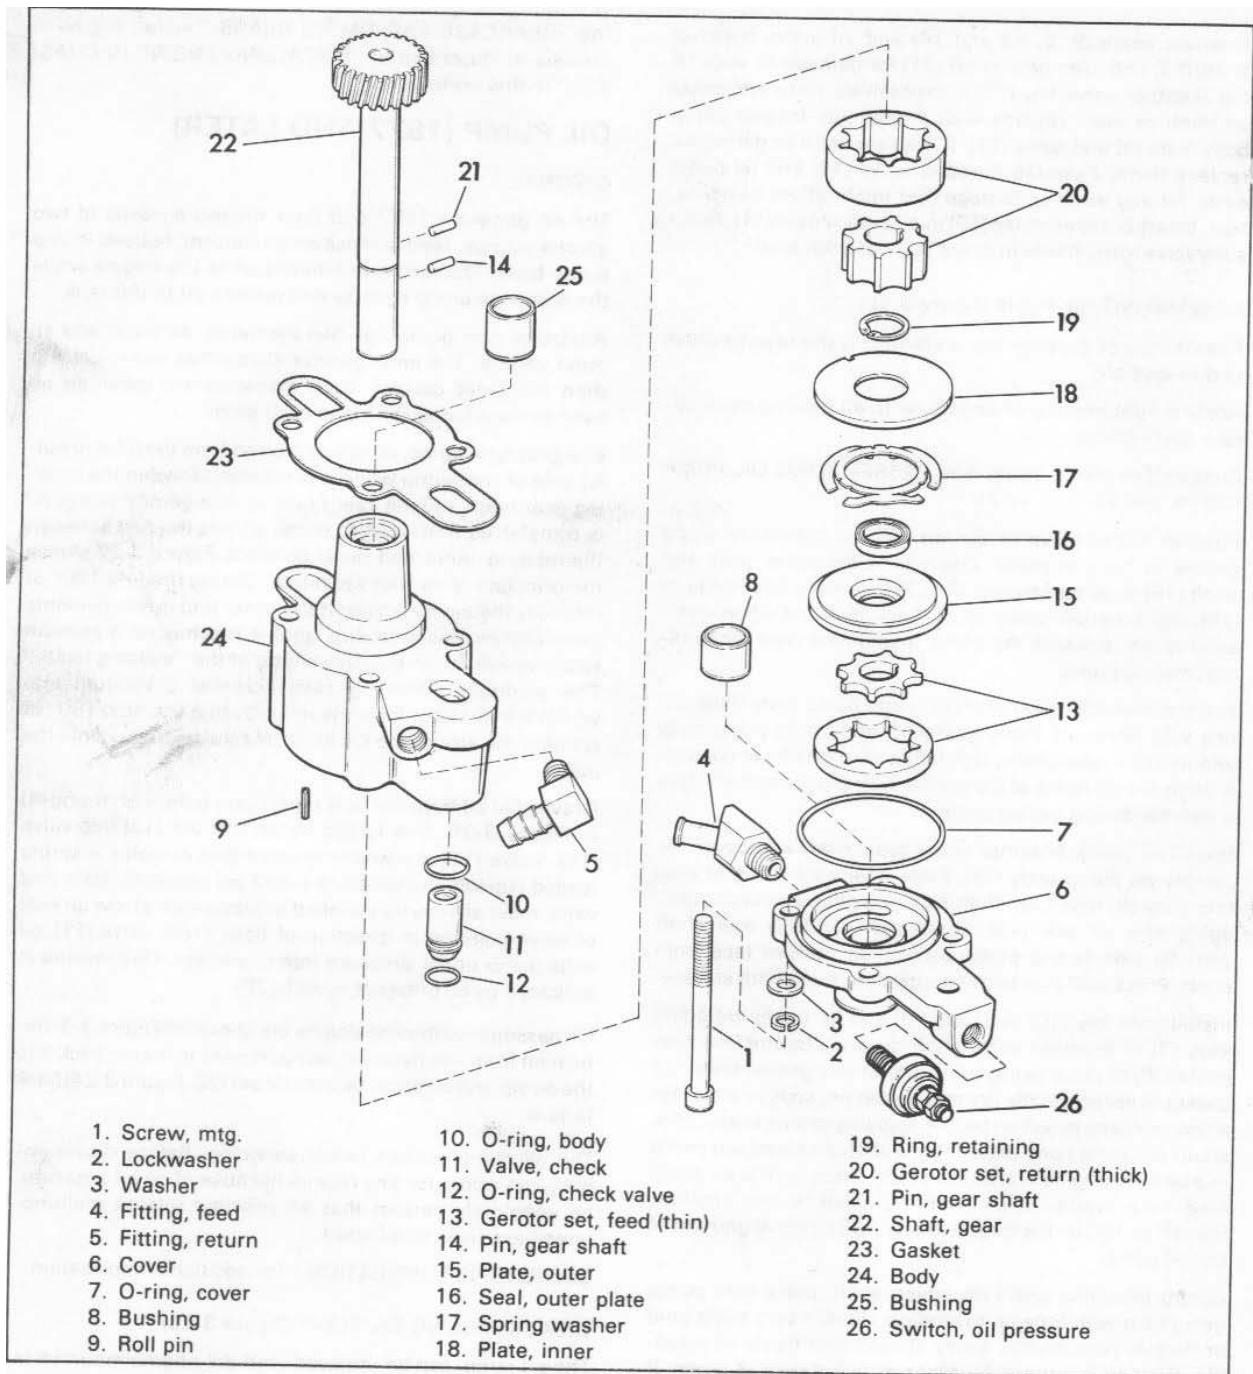

Figure 3-26. Oil Pump - Exploded View (1977 and Later)
Gravity fed oil from the tank enters pump through fitting (4) in Figure 3-26. It is forced by gerotor set (13) into valve (11). Valve (11) is a one-way valve that contains a spring loaded cup which maintains 1-1/2 psi pressure. Note that valve must always be installed in pump with arrow on side of valve pointing in direction of flow. From valve (11), oil exits pump under pressure into crankcase. Oil pressure is indicated by oil pressure switch (26).
Oil passages within the engine are shown in Figure 3-3. Return oil from the flywheel compartment is drawn back into the pump and is forced by gerotor set (20, Figure 3-26) back to tank.
#### DISASSEMBLING OIL PUMP (Figure 3-26)
#### CLEANING AND INSPECTING (Figure 3-26)
Lightly oil all moving parts prior to assembly (Figure 3-26). Position fingers of spring (17) toward plate (15). Gasket (23) should be coated with a sealer when placed on body (24). Reinstall seal (16) into groove of plate (15) with lip of seal facing the feed section of pump. Tighten screws to 100 in-lbs torque.
#### PRIMING OIL PUMP (Figure 3-26)